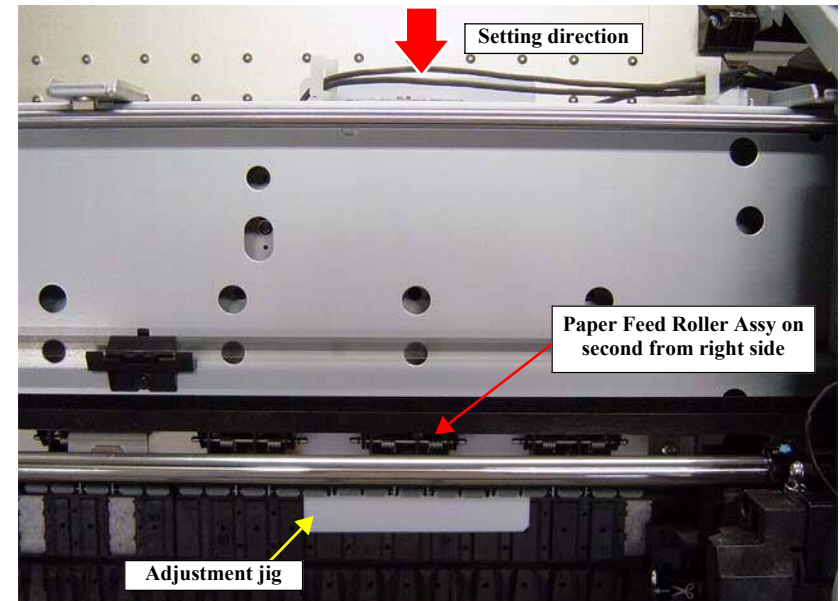

Figure 5-69. Position for the thickness tool (0.4/0.8/0.9 in thickness)
- Insert the adjustment jig (0.4) from the paper insertion opening, and set it to the position shown in Figure 5-69, then press the [Paper Set] button.
- Insert the adjustment jig (0.8) from the paper insertion opening, and set it to the position shown in Figure 5-69, then press the [Paper Set] button.
- Insert the adjustment jig (0.9) from the paper insertion opening, and set it to the position shown in Figure 5-69, then press the [Paper Set] button.